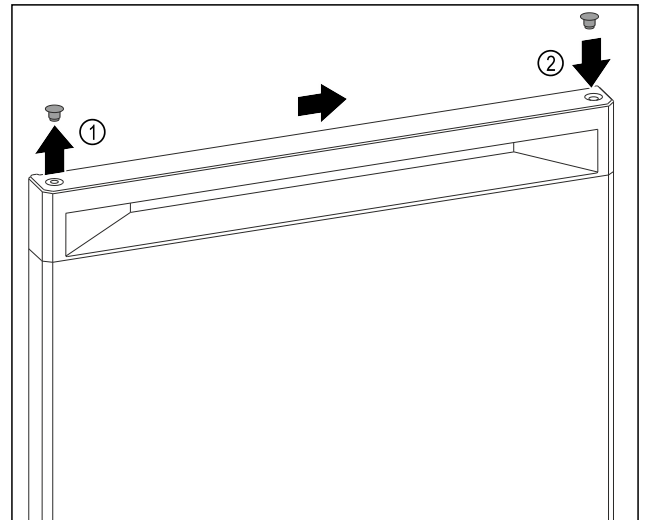

Fig. 7
- ▶ Carefully lift the cover plug on the top of the door Fig. 7 (1) with a slotted screwdriver.
- ▶ Insert the cover plug on the opposite side. Fig. 7 (2)